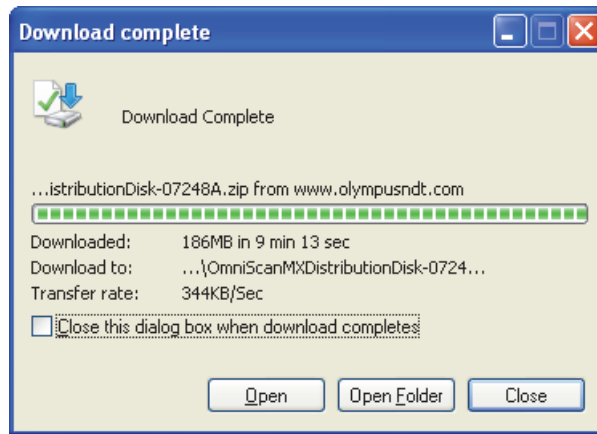

Figure 4-5 The Download complete dialog box
- In the **Download complete** dialog box, click **Open** (see Figure 4-5 on page 80).